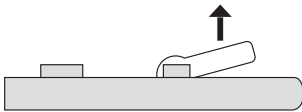

Fig. No. 5
- Remove the plastic tab inserted between one of the battery terminals and battery slot contacts (see Fig. No. 5).